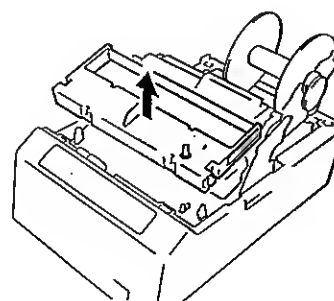

Fig. 1
- 2) Removing the old ribbon cassette by pulling it upward. (Fig. 1)